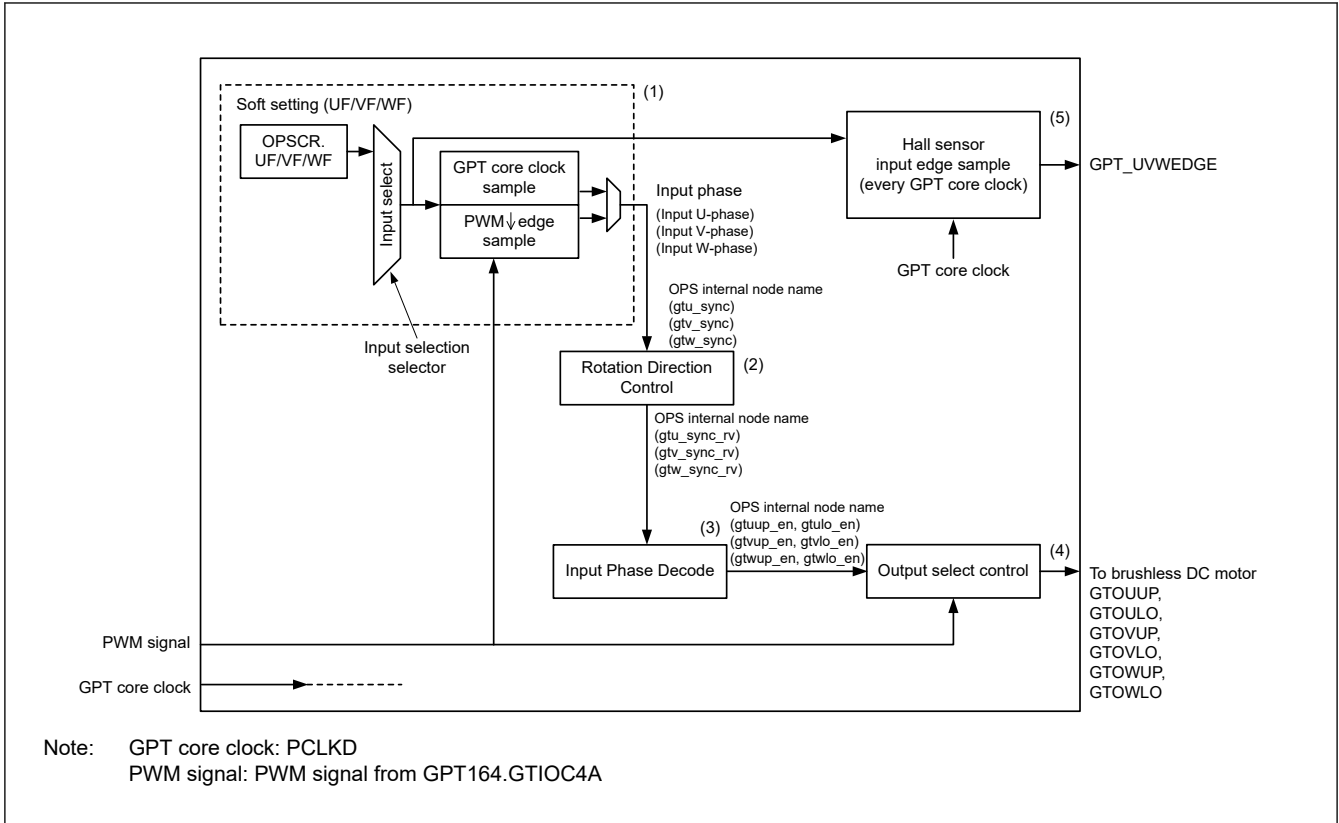

Figure 20.55 Conceptual diagram of GPT OPS control flow
Figure 20.55 shows the conceptual diagram of GPT_OPS control flow.
In the GPT_ OPS control flow conceptual diagram shown in Figure 20.55, (1) is a selection of input phase from the software settings and external input by the OPSCR.FB bit.
In the GPT_OPS control flow conceptual diagram shown in Figure 20.55, (3) enables the 6-phase signals by decoding the input phase selected in the OPSCR.FB bit.
In the GPT_OPS control flow conceptual diagram shown in Figure 20.55, (2) controls the direction of rotation of a 3-phase motor using the OPSCR.RV bit.
In the GPT_OPS control flow conceptual diagram in Figure 20.55, (4) represents the selection of the output waveform by setting the OPSCR register bit.
In the GPT_OPS control flow conceptual diagram shown in Figure 20.55, (5) outputs the Hall sensor input signal edge to the ELC.